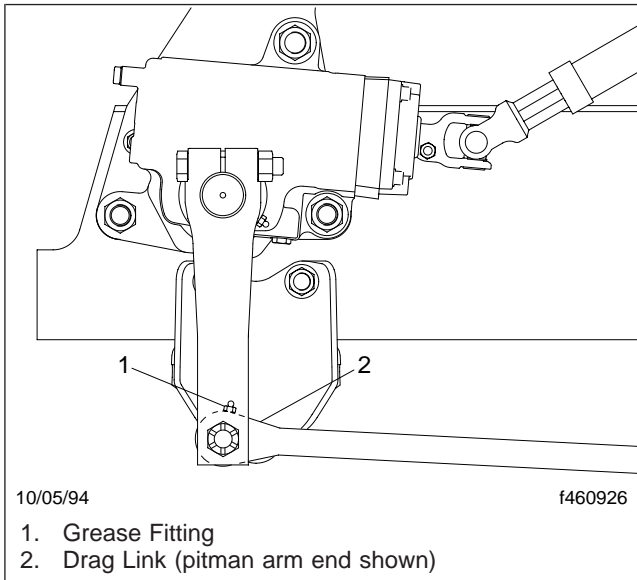

Fig. 2, Steering Drag Link
1. Using a clean rag, wipe the dirt from both grease fittings on the drag link. See **Fig. 2**.